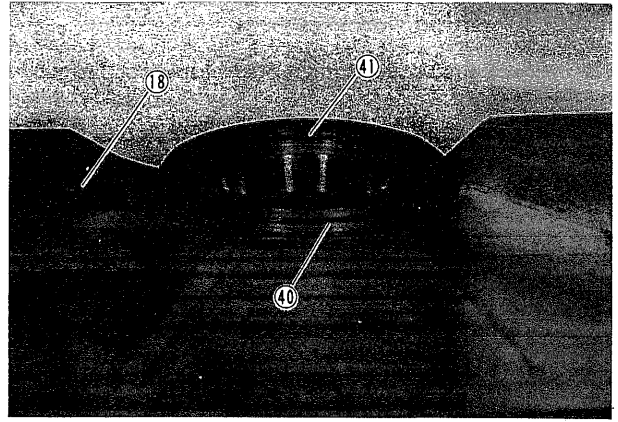

Fig. 90
- 1) Assemble bearing (33) into axle shaft (28).
- (i) SV91T, SV91D & SV91DP ..... Press inner race of bearing (19) to boss (30).
- (ii) SV91 ..... Assemble bearing (33), inner race of bearing (19), oil seal (41) and seal ring (40) to axle shaft (55).
- 2) Install seal ring (40) and oil seal (41) to disc (18). (Fig. 73, Fig. 90)